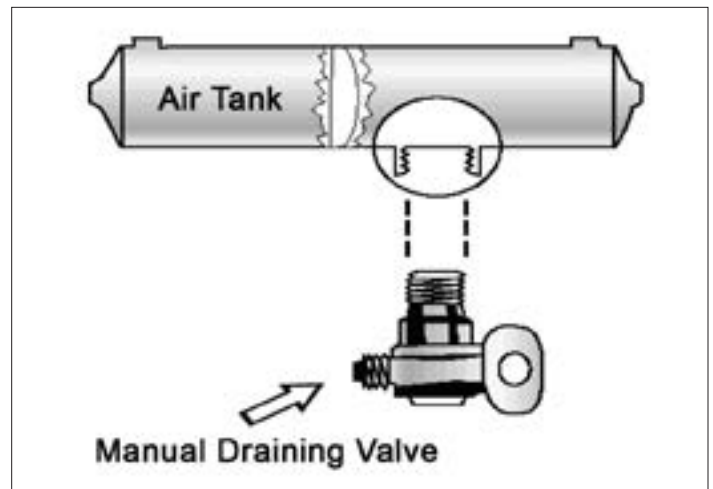

Figure 5.1
- Manually operated by turning a quarter turn or by pulling a cable. You must drain the tanks yourself at the end of each day of driving. See Figure 5.1.